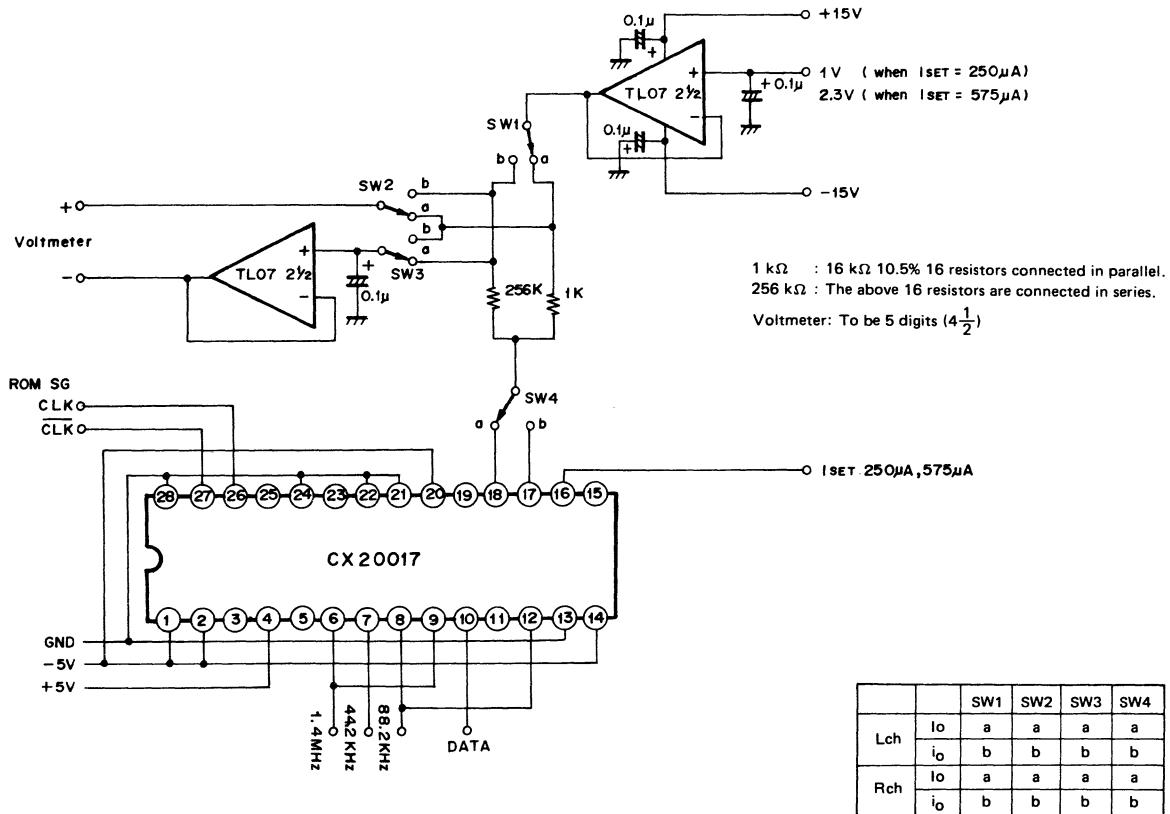

Fig. 3
*2 In the current ratio measurement circuit (Fig. 3):